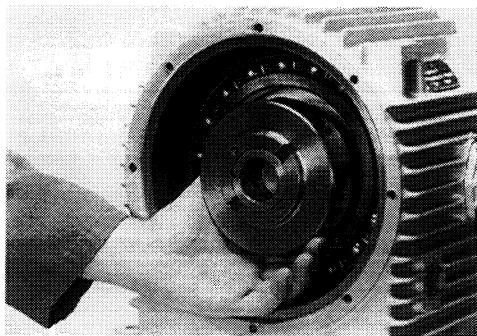

Fig. 10
Remove snap ring (54) and washer (12). Next, remove the output rotating group. Be careful the pistons do not drop out of the bores when you remove the output rotating group (Fig. 10).